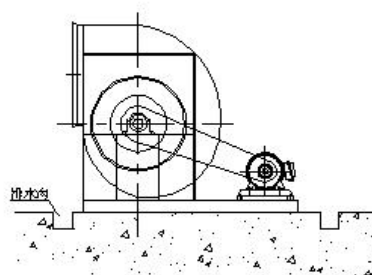

图6
(2)考虑到风机底盘会因积水而腐蚀,基础四周应设置排水沟(图6) Take into account the fan chassis due to water erosion, the foundation shall be installed around the drainage ditch (Figure 6).